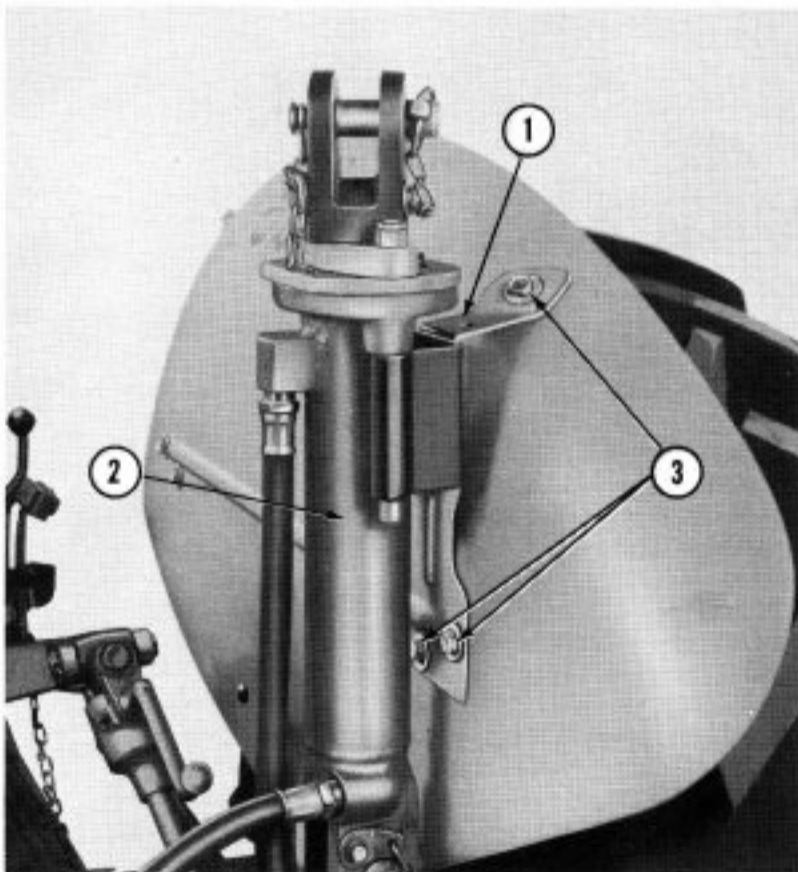

Figure 4
8. Attach the bracket (1), Figure 4, to the right tractor fender with the three bolts (3). When not in use, the cylinder (2), Figure 4, should be placed in this bracket as shown for transport.